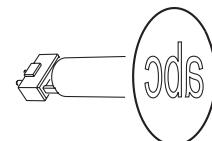

Figure 23. Correct gobo orientation
Correct gobo orientation is critical. Read the guidelines in Figure 23 carefully before installing a gobo.
5. Insert the new gobo in the holder with the side that must face towards the lamp facing upwards, towards the spring (see Figure 22 and Figure 23).
The orientations shown in Figure 23 are correct in most cases, but consult your Martin dealer or gobo supplier if you are in any doubt about the orientation of a specific gobo type. To minimize the risk of heat damage, priority must be given to installing gobos with their more reflective sides facing the lamp.